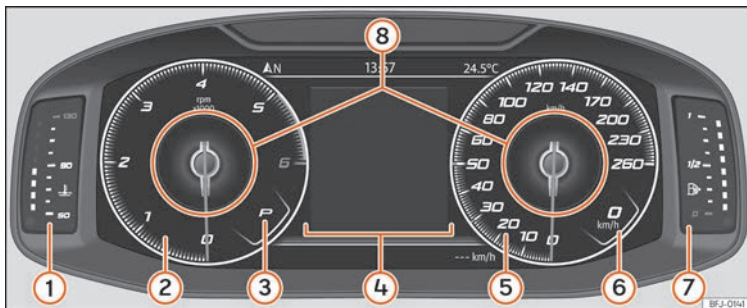

Fig. 127 SEAT Digital Cockpit on the instrument panel (classic view).
In *Classic View* and *Semicircular watches* it is possible to customise the information displayed under **Information Profiles** »» **Fig. 127 ⑧**.
» Fig. 127.